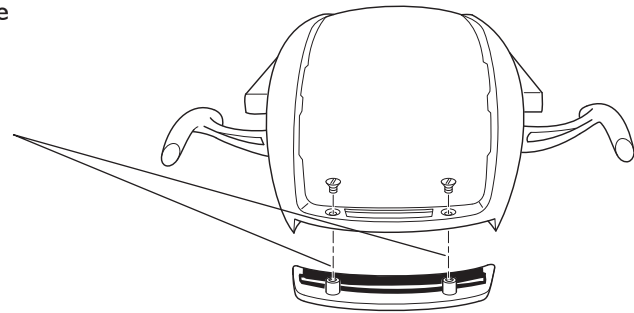
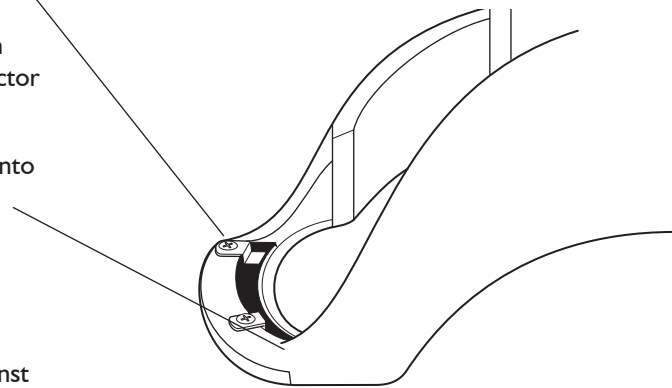

Figure 1
Figure 2
4. Tilt light reflector face down. Remove from one end only, two #6 x 1/4 Phillips truss head screws securing the reflector retaining clamp. Remove clamp and pad assembly. (Figure 1 or Figure 2)